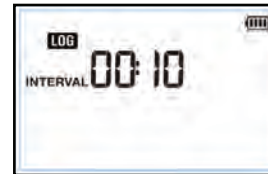

Figure 1. Log Interval
1. Push **SETUP** until **LOG INTERVAL** shows in the display. See Figure 1.